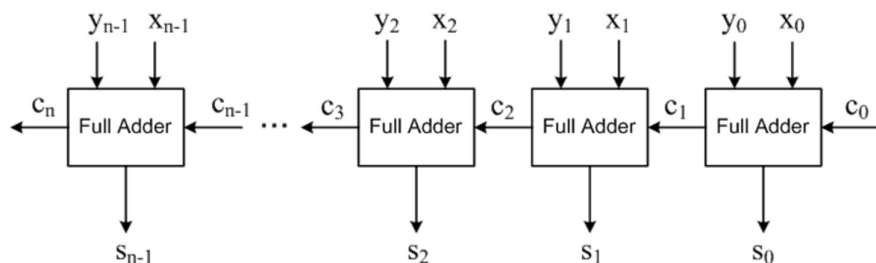

Figure 4: n-bit ripple carry adder [1]
4) Design a circuit for Final Stage Adder shown in Fig. 1. You will use Ripple Carry Adder (RCA) for the final stage adder, the schematic for RCA circuit is shown in Fig. 4.
- Write a test bench file with name “RCA\_tb.v” to test your design. Perform a behavioral simulation for your design in iverilog, covering 10 inputs calculated using Eq. (5) and (6). Add the result to your report to prove that the circuit is working as expected.